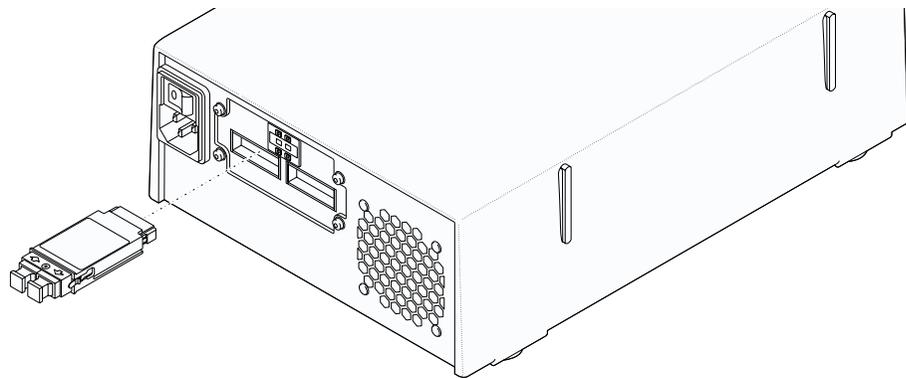

Figure 2-11 GBIC installation on the back of the tabletop Fibre Channel drive
1. Install a GBIC in one or both of the Fibre Channel sockets on the back of the tape drive, as shown in Figure 2-11. (The GBIC type must match the Fibre Channel cable.)